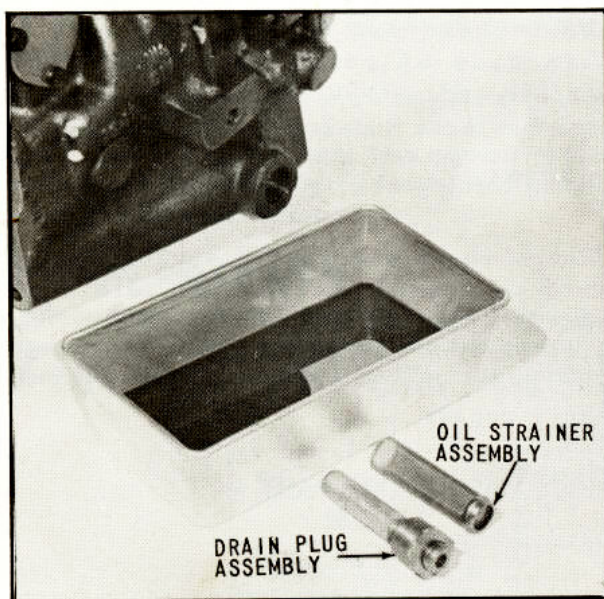

Fig. 13 Draining Transmission Oil
2. If space permits, place container having approximately three (3) quart capacity under drain cap, located as shown in (Fig.13). Unscrew the drain plug and cooler return tube assembly, reach into the opening with a suitable tool, and remove the strainer assembly, (Fig. 74). Allow oil to drain into pan.